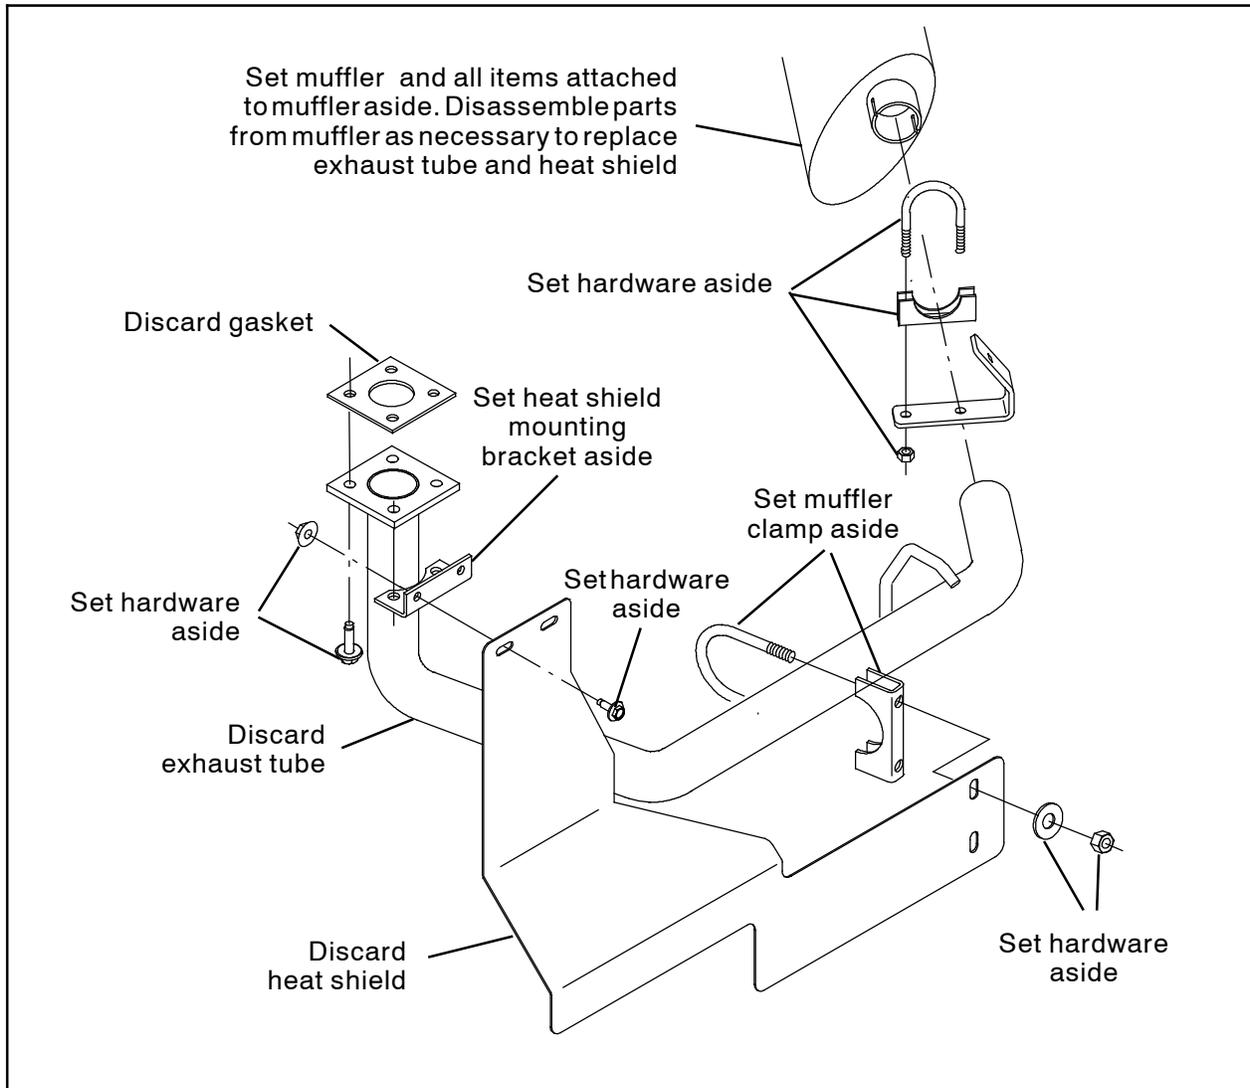

FIG. 1
1. Remove the existing exhaust tube, heat shield, and gasket from the machine. Discard the tube, shield, and gasket. Set all remaining removed components and hardware aside. (Fig. 1)